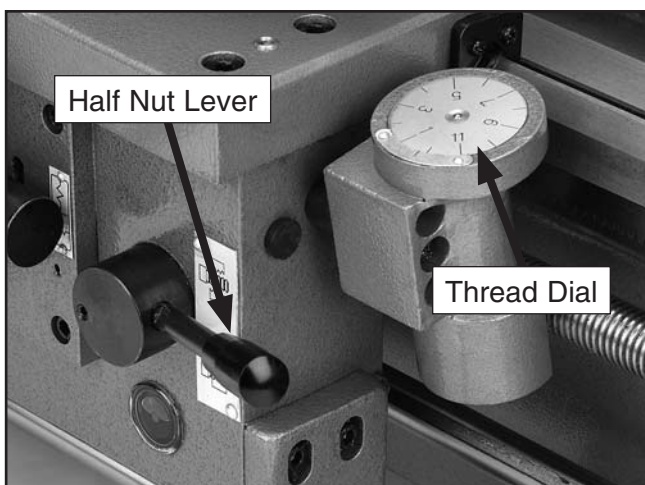

Figure 56. Half nut and thread dial locations.
2. If the thread dial (**Figure 56**) is not engaged with the lead screw, use a hex wrench to loosen the thread dial and rotate it to engage the lead screw, then tighten the dial.
5. Turn **ON** the spindle to verify settings. Check to see that the lead screw is turning and verify that the carriage moves in the correct direction by engaging the half nut lever shown in **Figure 56**.